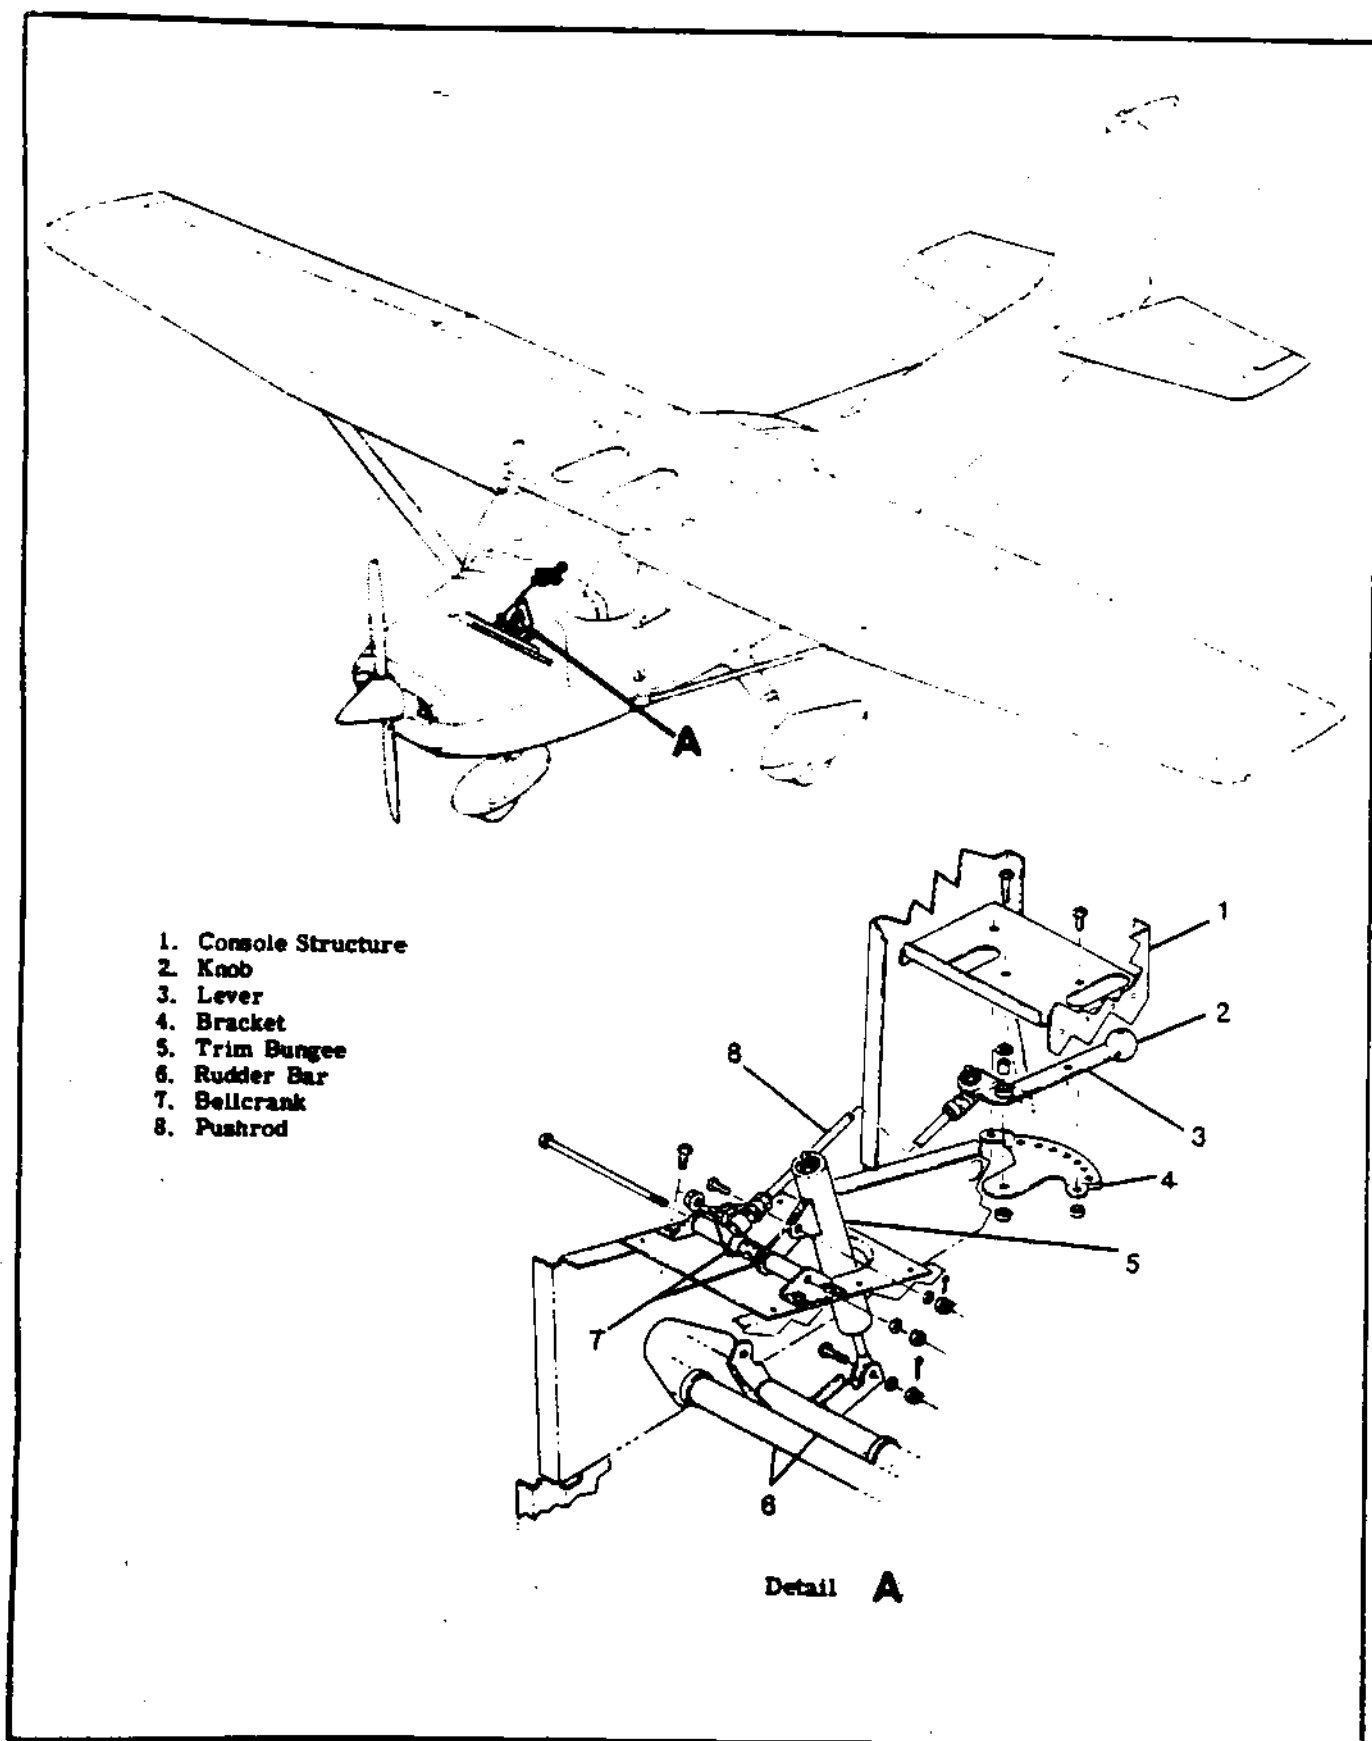

Figure 10-5. Rudder Trim Control System
- 10-12. **RUDDER TRIM CONTROL SYSTEM.** (See figure 10-5.)
- 10-14. **RIGGING.** (See figure 10-5.)
- d. Install bungee (5) between rudder bar (8), and bellcrank (7) as shown in figure 10-5, detail A.
- e. Make sure lever assembly (3) is in neutral position or center hole of bracket (4).
- f. Adjust ball ends of push rod (8) so that ball end studs align with holes in bellcrank (7) and lever assembly (3) and install push rod.